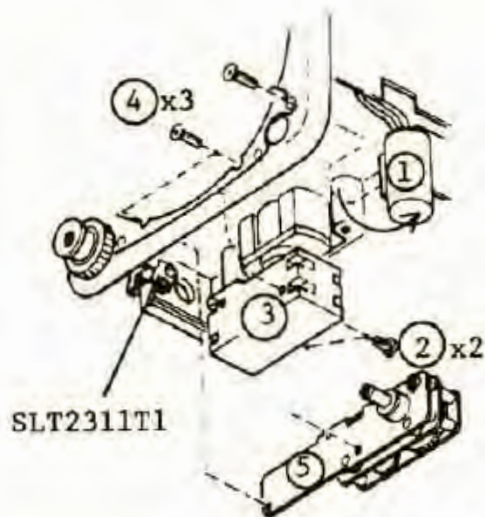

Fig. 61
- 1) The arabic numeral in a circle as shown in Fig. 61 indicates the procedure of disassembly and reassembly is normally the reverse of disassembly.
- 1) Adjustment is made by changing position of the SLT2311T1 Plate as shown in Fig. 61.